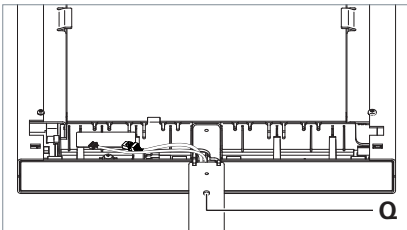

Fig. 8: Adjusting the inclination.
- ▶ Lift the luminaire head to align it vertically and tighten the adjusting screw **Q** against the support tube counterclockwise by hand, see Fig. 8.